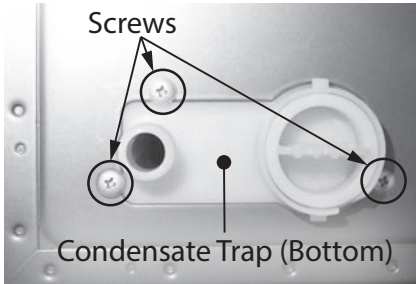

Figure 199 - Location of condensate trap screws.
- 7 The condensate trap drain is located underneath the water heater (see Figure 199). Disconnect drain piping to the plastic condensate drain. Place a bucket or pan underneath to collect water during removal.
- 12 Locate the three (3) screws underneath the water heater securing the condensate trap. See Figure 199. Use a Phillips screwdriver to remove the screws. Place screws aside in a safe place for reinstallation.